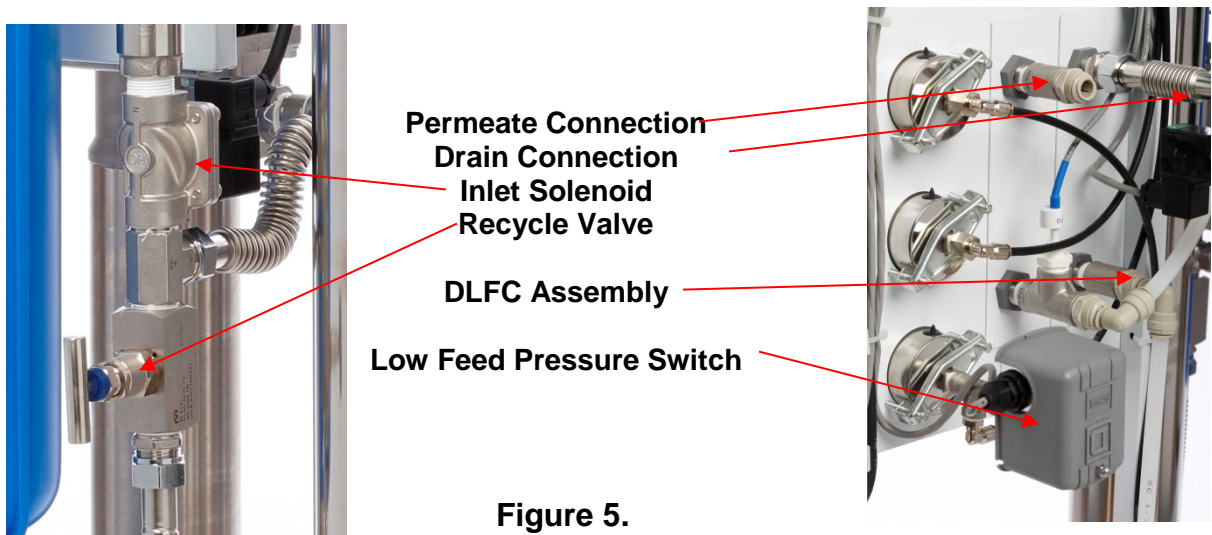

Figure 5.
1. Connect the 14ga. 3 wire cable on the back of the control box to an approved electrical breaker or a disconnect switch.(See Step 4.4 - Figure 5 for main power location)